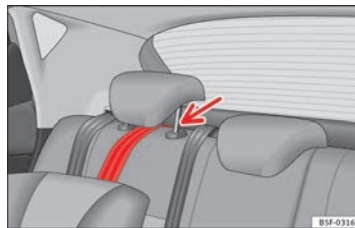

Fig. 36 Retainer strap: correct adjustment and fitting.
- Guide the Top Tether fastening belt under the rear seat head restraint ⇒ Fig. 36 (lift the head restraint where necessary).